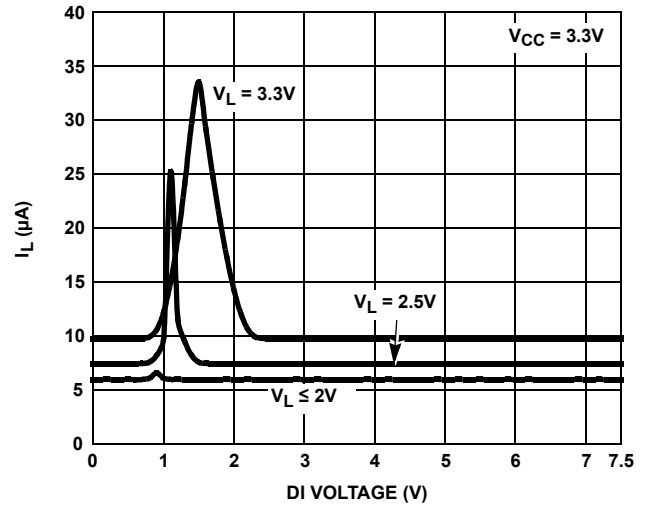

FIGURE 12.  $V_L$  SUPPLY CURRENT vs LOGIC PIN VOLTAGE
The VL supply current (IL) is typically much less than 20μA, as shown in Figure 12 on page 11, when DE and DI are above/below VIH/VIL.